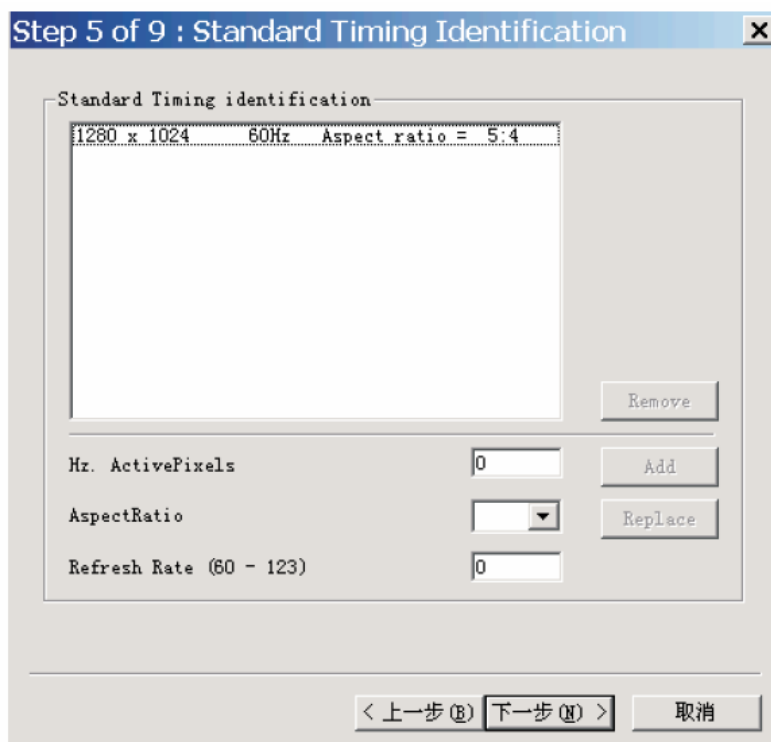

Fig. 18
4. Click Next , bring up Fig.18.